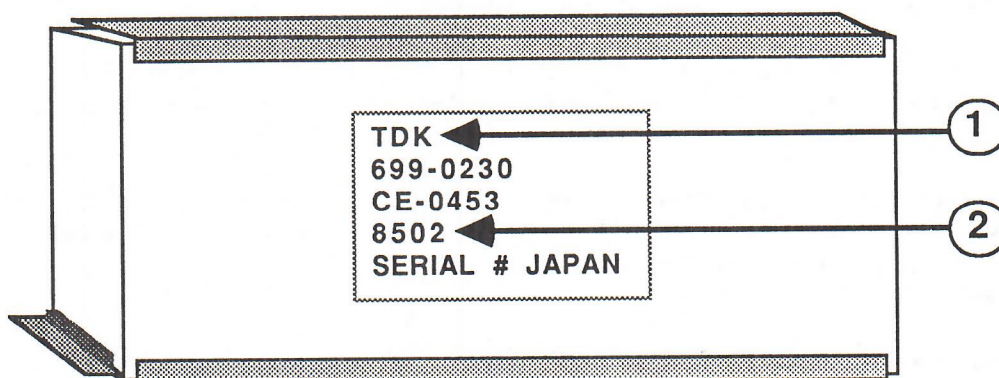

FIGURE 5
- a. The marking "TDK" (see Figure 5, #1)
- b. Date code between 8501 and 8526 (see Figure 5, #2)